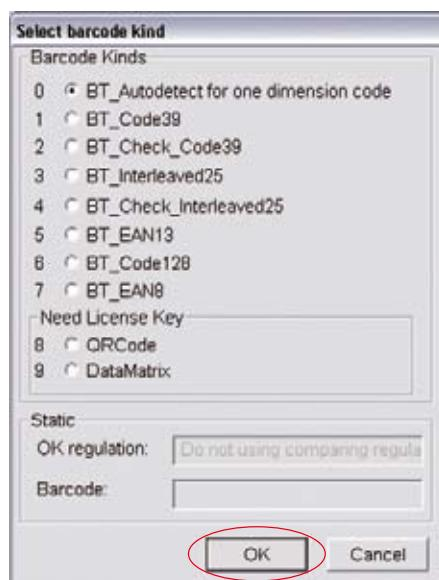

Figure 1-71 Barcode kind
- Step3: Press **Set** in the right side of **Algorithm**. The window shown in Figure 1-71 appears. Select the barcode kind and press **OK**.